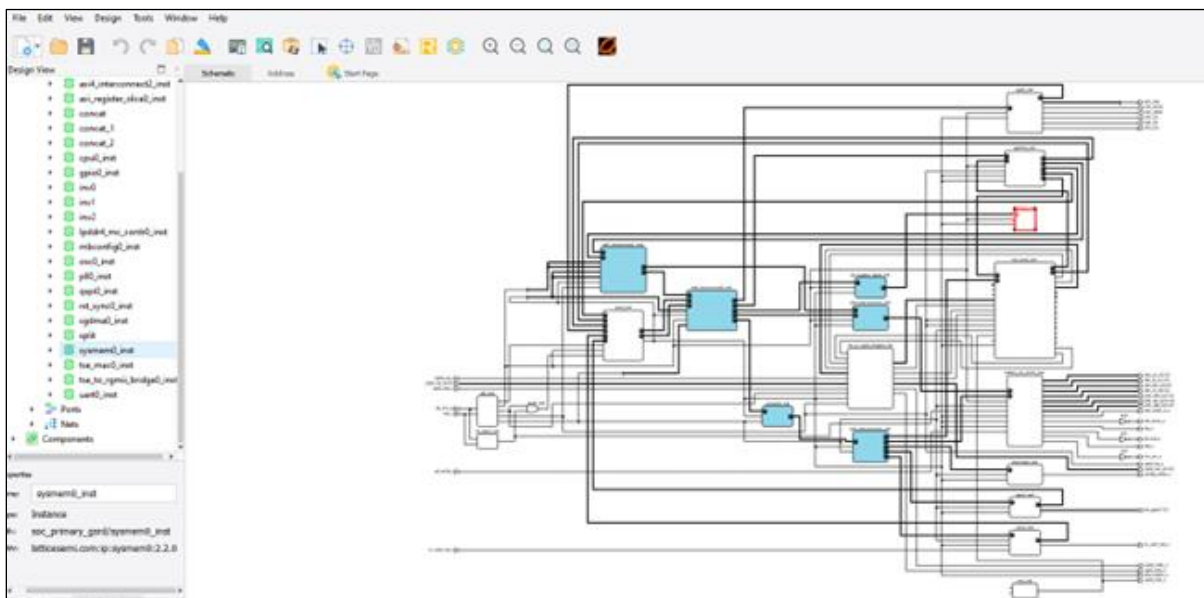

Figure 8.40. System Memory Highlighted
- Select the **System Memory** Instance from the Design View in the left column and it highlights the *system0_inst* as shown in Figure 8.40.